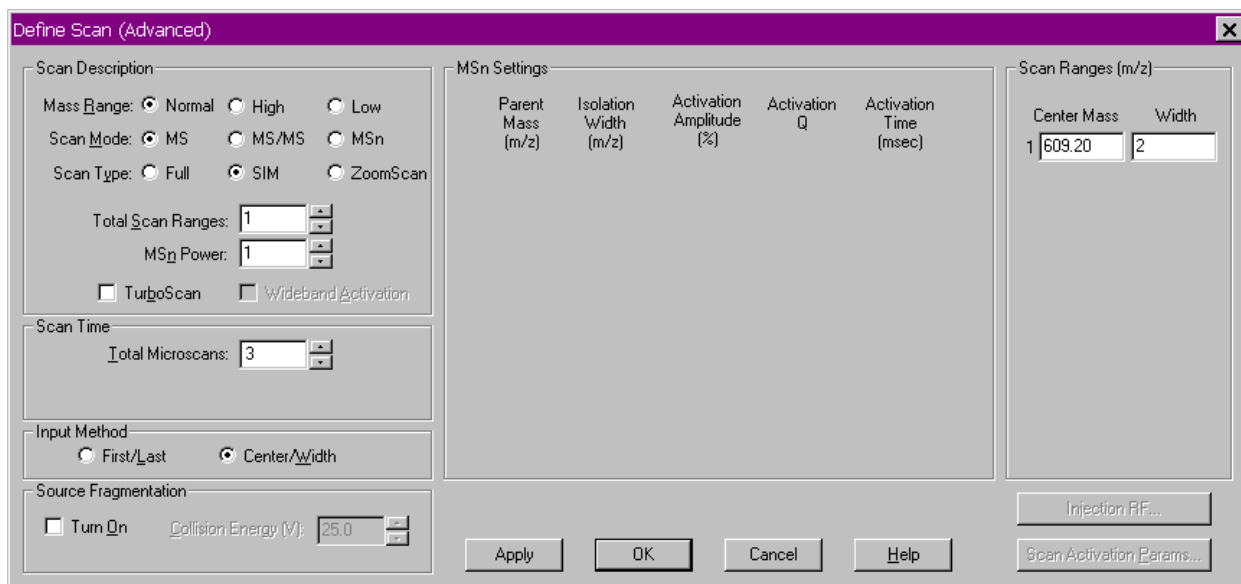

Figure 24. Define Scan dialog box, showing typical settings for APCI/APPI/MS operation
- a. On the Control/Scan Mode toolbar, click on the Define Scan button to open the dialog box (Figure 24).
- j. Ensure that the settings in your Define Scan dialog box are the same as those shown in Figure 24.